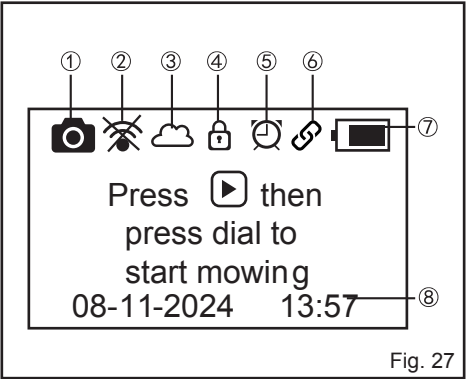

Fig. 27
- Place the mower on the base station. Make sure the mower's charging strips are fully connected with the contact strip of the base station (Fig. 25). The mower will automatically start initialization (Fig. 26). It will take about 15 seconds to complete this process. The mower will beep twice, and the LCD panel will display the Main Screen (Fig. 27).
MAIN SCREEN (Fig. 27)